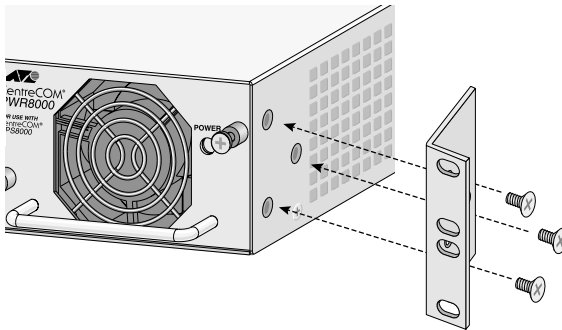

Figure 3 Attaching the Rackmounting Brackets
- b. Attach the rackmounting brackets to each side of the unit using the six flathead screws (provided) as shown in Figure 3.